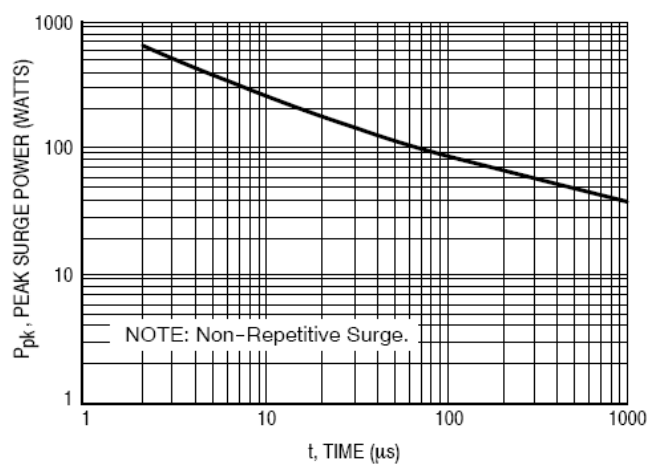
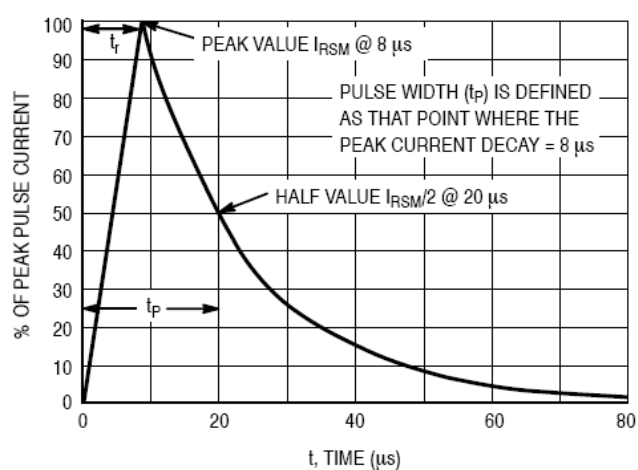

Figure 1. Pulse Width
Figure 2. $8 \times 20 \mu s$ Pulse Waveform
1. Non-repetitive current per Figure 1. Derate per Figure 2.